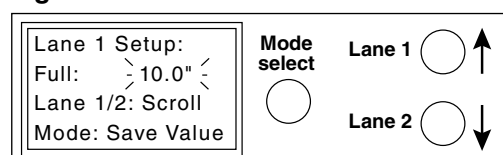

Fig. 7
5. Press MODE SELECT to save new ice level sensor setting (Fig. 7).